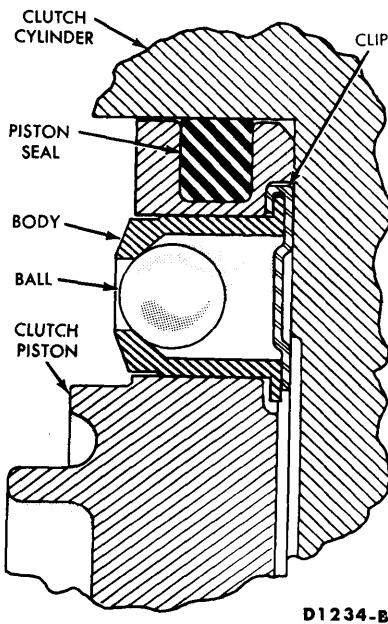

FIG. 33—Front Clutch Piston Seal and Check Valve
7. Remove the piston inner seal from the clutch housing. Remove the piston outer seal from the groove in the piston as shown in Fig. 33.
8. Lubricate all parts with transmission fluid. Install a new piston inner seal ring in the clutch cylinder. Install a new piston outer seal in the groove in the piston as shown in Fig. 33.